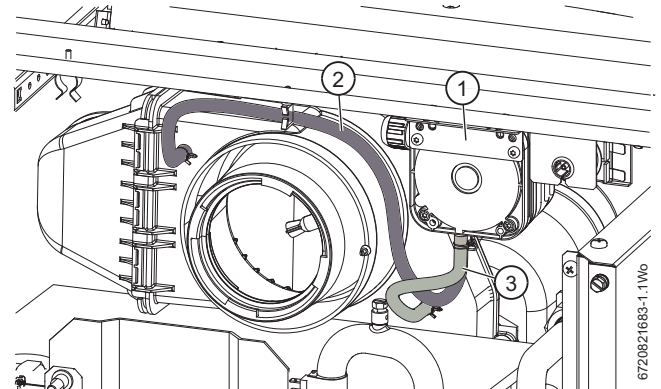

Fig. 107 Sensing tube connections
- ▶ Ensure that the sensing tubes are connected correctly, refer to figure 107